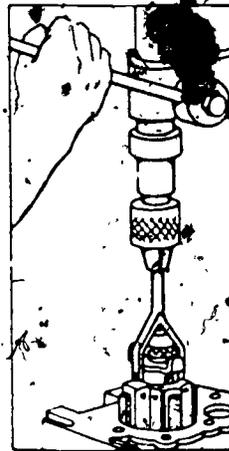

FIGURE 3
- d. Raise and lower hone in cylinder while it rotates (Figure 3)